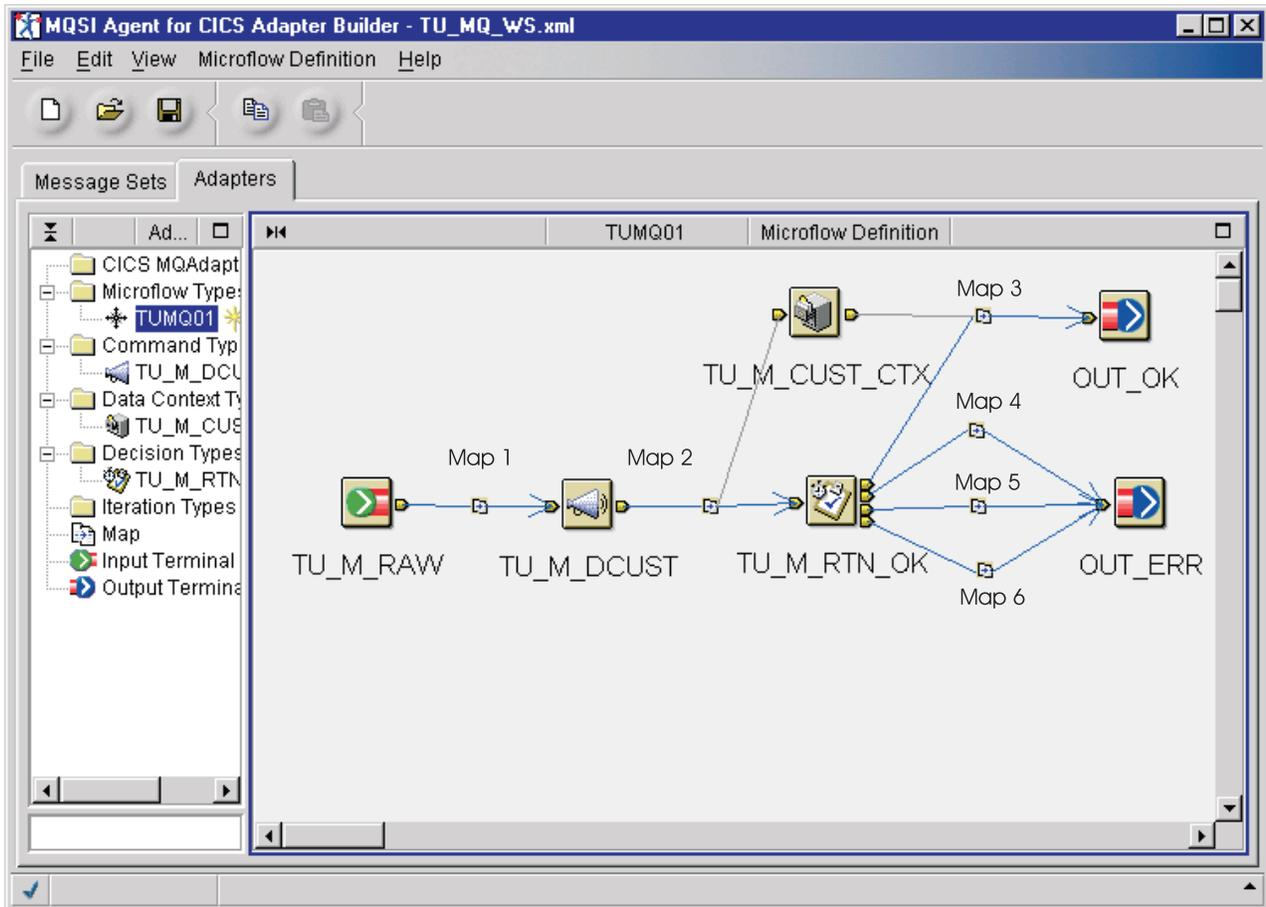

Figure 66. The TUMQ01 microflow
**Note:** See Figure 66 on page 96 to see the placement of the four Map nodes (Map 3–Map 6). The Map node labels are for annotation only and will not appear in your workspace.
- 9) Add a data connection from the Map2 node to the TU\_M\_CUST\_CTX Data Context node and from the out terminal of the TU\_M\_CUST\_CTX Data Context node to the Map3 node. Refer to Figure 66 to see all of the node connections in the microflow.